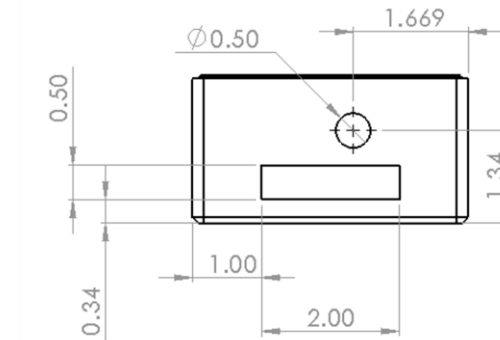

Fig. 6: Back of Box
- 14) Locate the switch hole in Fig. 6.